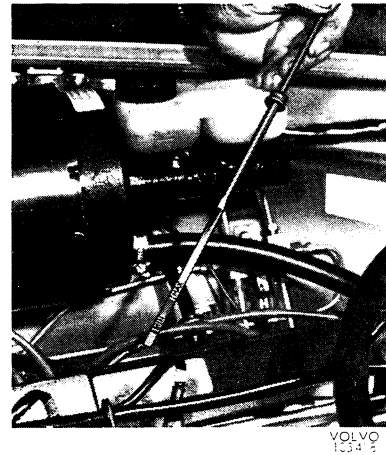

Fig. 1-15. Oil dipstick
The oil level should be checked with the help of the dipstick, see Fig. 1-15.
1. Check to make sure that the oil level in the engine is between the "Max" and "Min" marks on the dipstick (see Fig. 1-15).